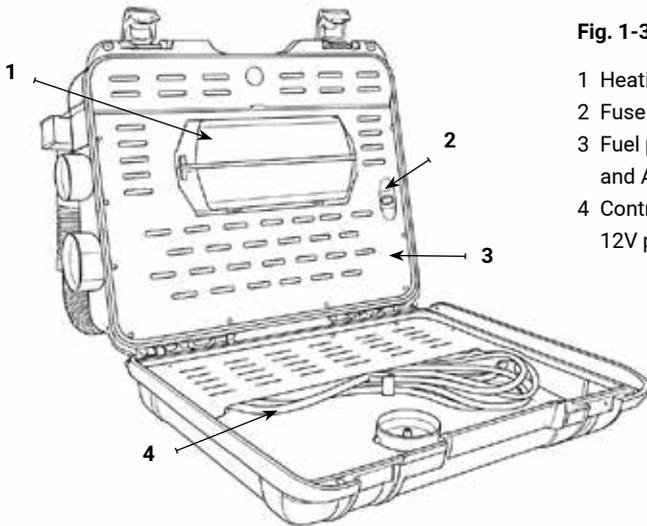

Fig. 1-3
- Disconnect the control cable, and store both the cables and controller inside the portable heater (Fig. 1.3).